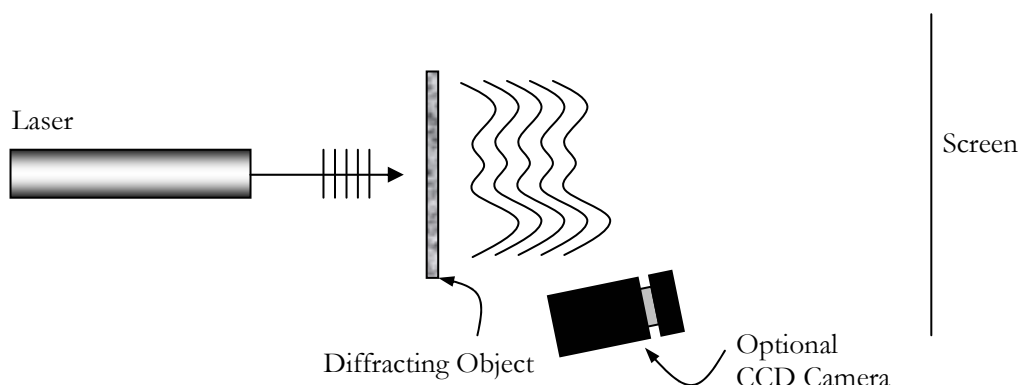

Figure 1. Setup for observing Fraunhofer Diffraction
The setup we will use to demonstrate and study Fraunhofer diffraction is shown below. Note that it is important to illuminate the objects with a planar wavefront to observe Fraunhofer diffraction. In many cases, a reasonably accurate Fraunhofer pattern can be obtained with the raw laser beam (i.e., without the beam expander) and with the screen sufficiently far away from the diffracting object (see Figure 1).
- (d) *Optional:* Using the CCD imager, as shown in Figure 1, capture an image of the two-slit diffraction pattern. It is important that you not move the imager from its current location. Using the captured image, employ Matlab to calculate the relative spacing of the slits. Provide a reconstruction of the slits, then compare their relative dimensions numerically.